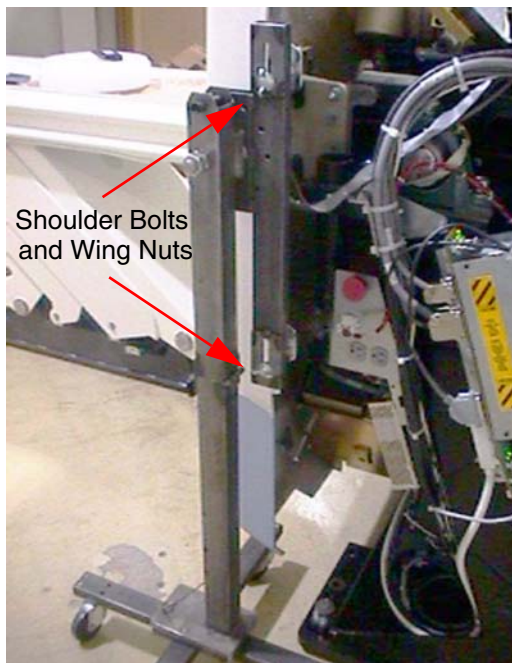

Figure A-7 Front Side Dolly
- a.) Tighten the two (2) shoulder bolts to the gantry securely. This will make cover installation easier. See Figure A-7.